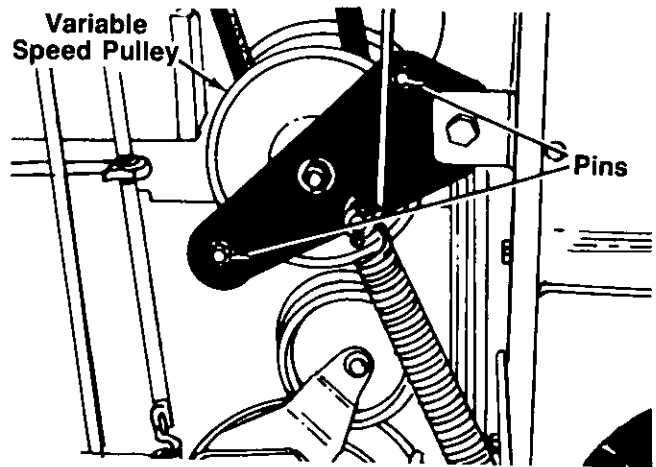

FIGURE 30.
10. Move the variable speed pulley as necessary in order to remove the belt. See figure 30.
**NOTE:** When reassembling, make certain belt is inside the pins as shown in figure 30.